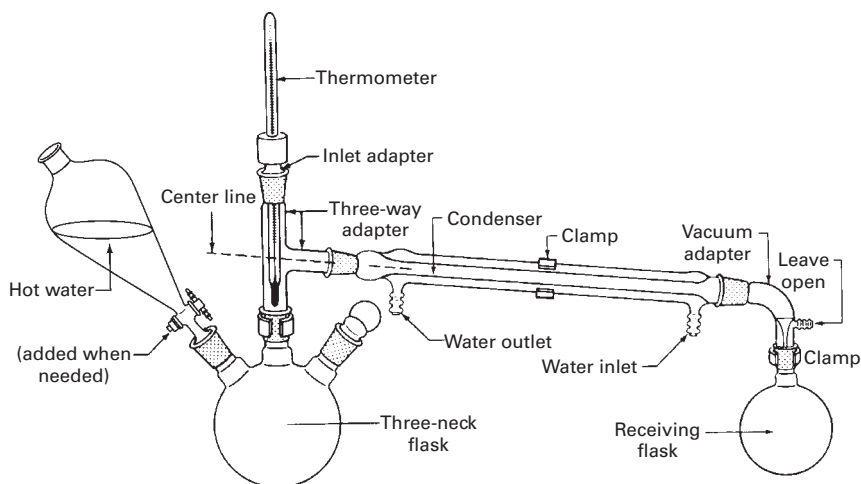

FIGURE 19.14 An internal steam distillation setup.
1. You can add hot water to the flask (Fig. 19.14) that will generate steam and thus provide an **internal source of steam**. This method is used almost exclusively in an undergraduate organic lab for the simple reason that it is so simple.